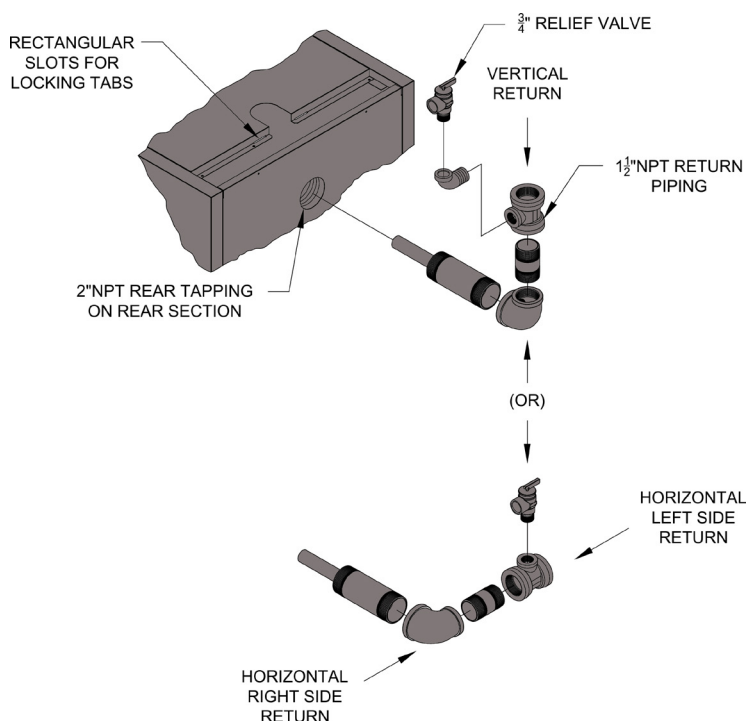

Figure 2-5: Return Manifold and Relief Valve Assembly Details
F. FIELD ASSEMBLY OF BOILER TRIM Open miscellaneous parts carton and remove contents. Identify the components using the illustrations (see Figure 2-5 thru 2-9) throughout the assembly sequence outlined below as it applies to your installation.
1. Install return manifold and relief valve, refer to Figure 2-5.
Note: Based on system return piping and access to service boiler, see Figures 1-1, 3-2 and 3-3, predetermine if manifold orientation is to be positioned for vertical, horizontal left or horizontal right side return piping as shown in Figure 2-5.
- 1-1/2 in. NPT horizontal left or right side return piping - Install relief valve vertically in 3/4 in. NPT tapping on tee. See Figure 2-5.